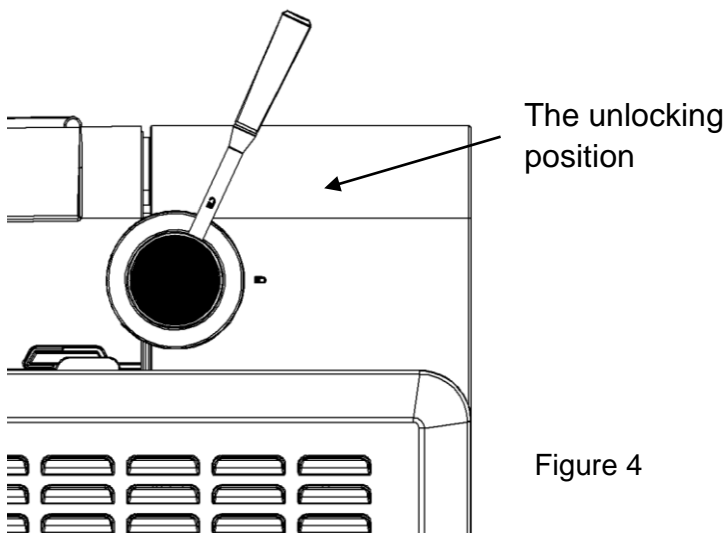

Figure 4
1. Unplug the power connection, turn the charging barrel switch to the unlocking position (as shown in Figure 4), remove the charging barrel, and then take out the mixing fan blade to clean it and dry it with a towel.